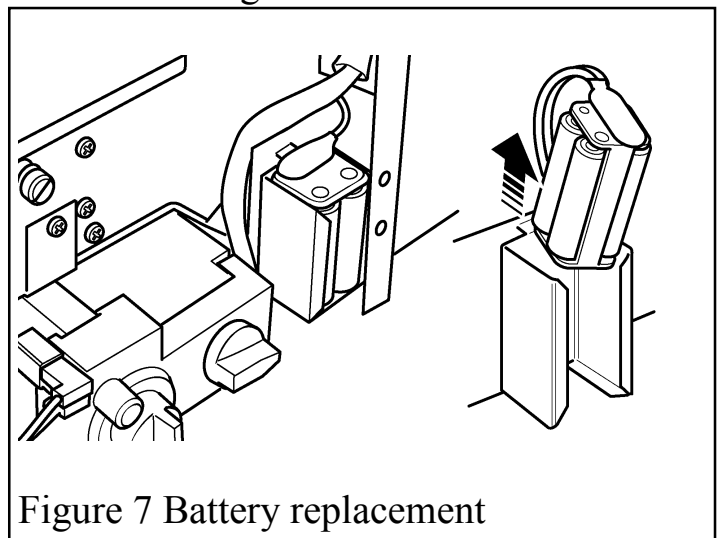

Figure 7 Battery replacement
- The battery case is at the right side. Lift the plastic battery holder out of the metal case and detach the batteries. See figure 7.